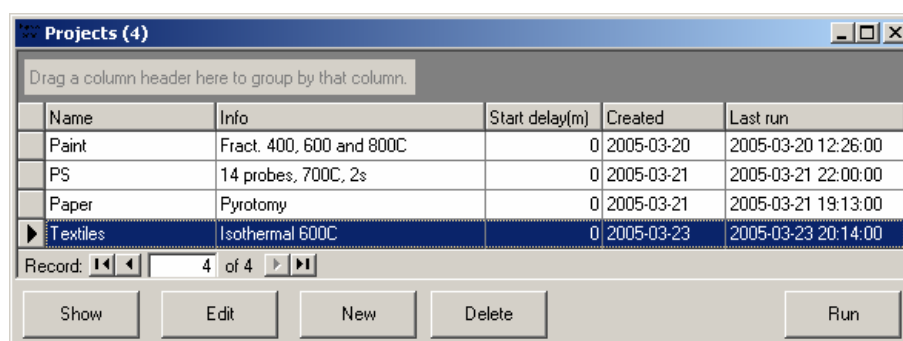

Figure 4-5. Projects window.
2. Select 'New' in the projects window to add a line for the new project, see Figure 4-5.